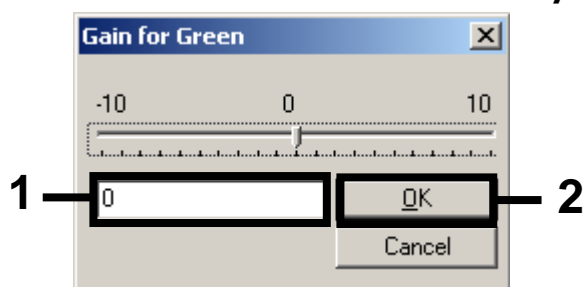

Figure 16. Manually entering the lowest gain values.
15. Select the lowest gain value for Cycling Green noted in step 12, and enter this value manually in the "Gain for Green" window (Figure 16). Select the lowest gain value for Cycling Yellow noted in step 12, and enter this value manually in the "Gain for Yellow" window.